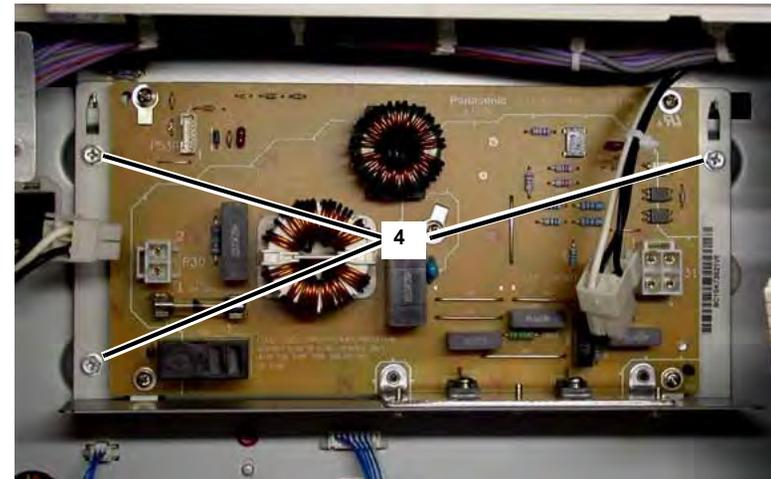

Figure 2 Removing Screws
4. Remove the AC Driver PWB and panel (3 Screws) (Figure 2).